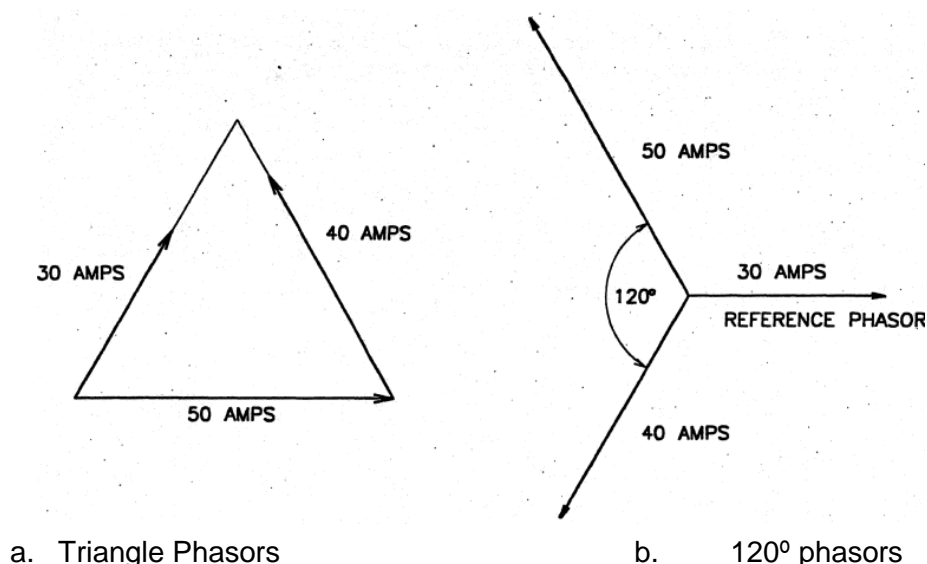

Figure 12 – Phasor diagrams of an unbalanced three phase circuit
39. Consider a three phase four wire distribution system in which the current in each phase are 30, 40 and 50 amps respectively. If the power factor of each phase is unity the phasor diagram of the circuit can be drawn in two ways as shown in Figure 12.